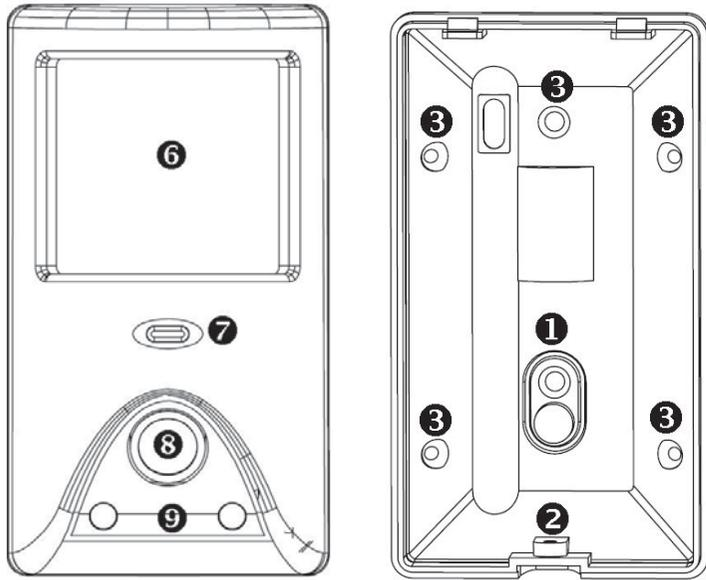

Figure 1: Outer Casing, Frontal Views
4. Attach the screw provided in the detector kit to the bottom of the mounting bracket (See Figs. 1 and 2, position 2).